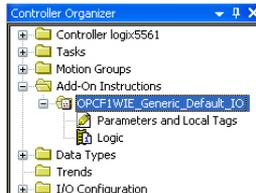

Figure 89: Generic Default IO AOI
- 2) Right click on "Add-On Instructions" in the controller organizer view and select "Import Add-On Instruction". Browse and import the generic default I/O AOI. Refer to Figure 89.